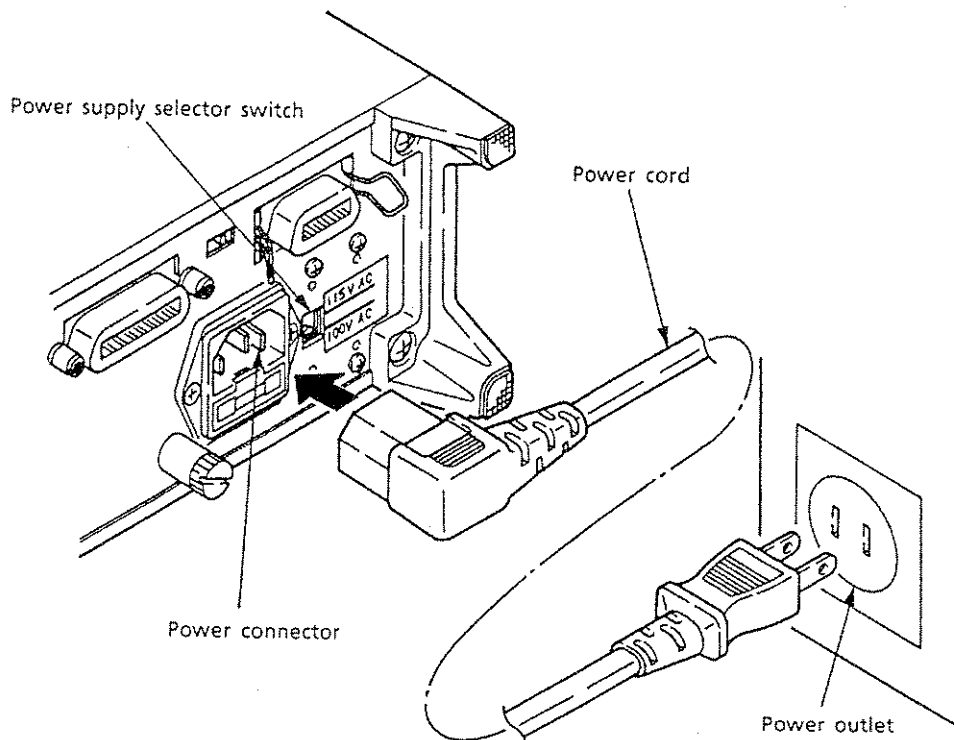

Figure 1.4 Power Supply Connection
(1) Power Supply Connection
- ① After installing the instrument, connect the power supply cord (supplied with the instrument) to the power supply connector at the rear of the instrument (see Figure 1.4).
- ② Check that the instrument power switch (front panel) is in the OFF position. Connect the power plug to the power outlet as shown in Figure 1.4. Always use a power supply within the rated voltage. The rated power supply is indicated to the side of the power switch (see Figure 1.4).